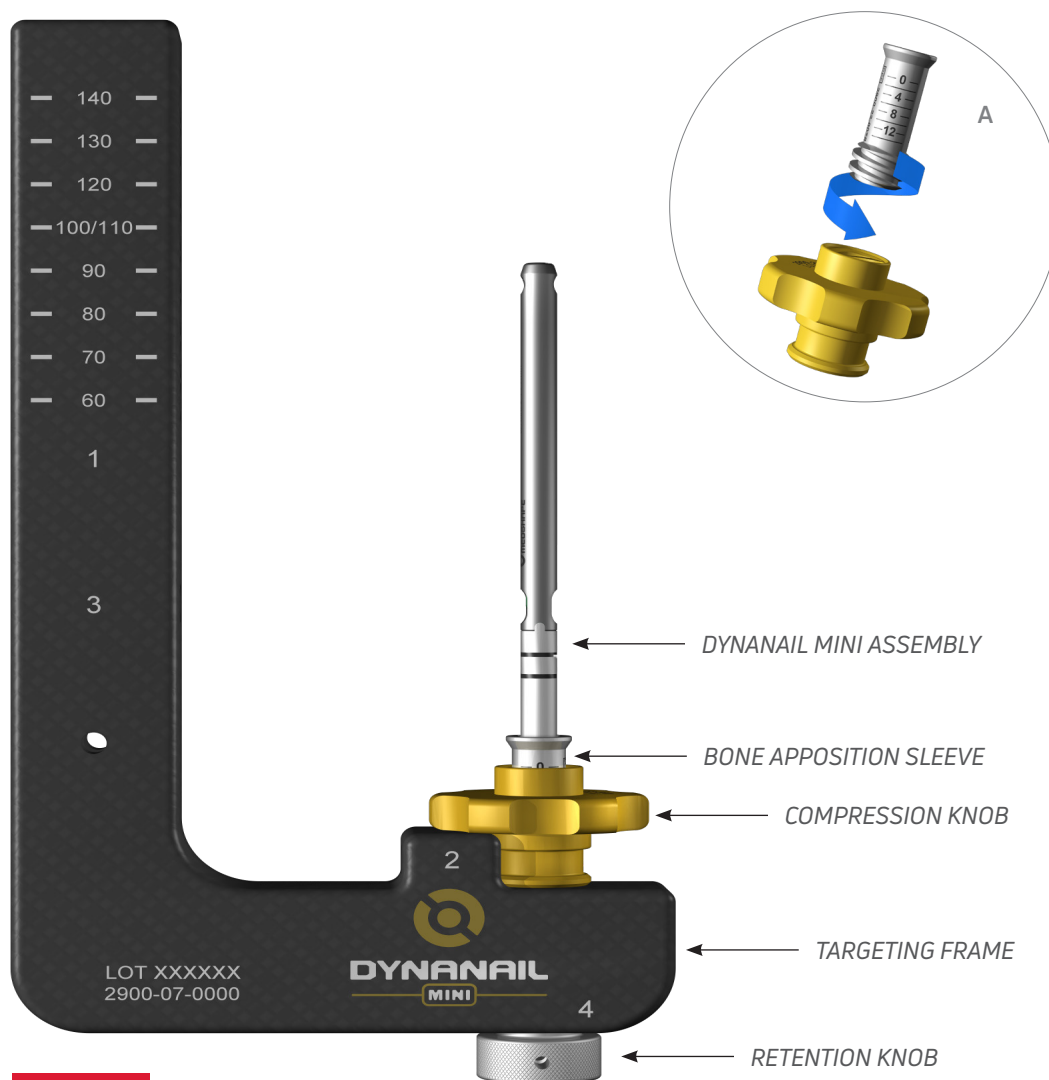

FIGURE 9
1. Targeting Frame (5)
2. Bone Apposition Sleeve (7)
3. Compression Knob (8)
4. Retention Knob (6)
Attach the pre-stretched DynaNail Mini Implant Assembly onto the Targeting Frame and turn the Retention Knob clockwise to securely tighten. Thread the Bone Apposition Sleeve onto the Compression Knob by turning counter-clockwise until it stops (A). With the Bone Apposition Sleeve oriented up, advance the Manual Compression Knob over the DynaNail Mini Assembly and down past the ball bearing until it clicks into place (FIGURE 9).